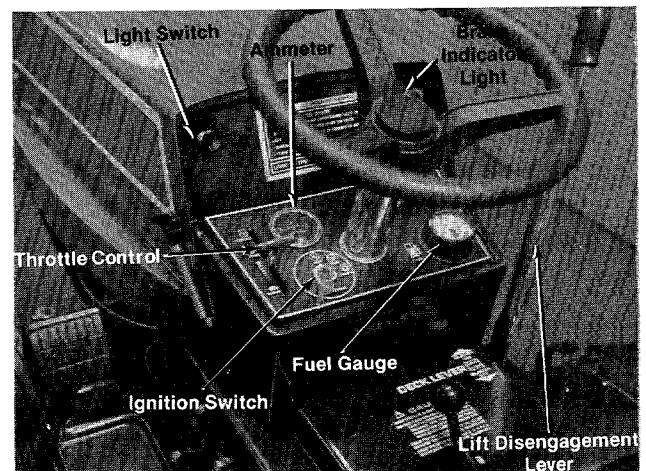

FIGURE 6. CONTROLS
a. Throttle Control. The throttle control is used to regulate the engine speed and choke the engine. The engine should be operated from $\frac{3}{4}$ to full throttle when operating the cutting deck or snow thrower (optional). See figure 6.
b. Gear Shift Lever. The gear shift lever is used to shift into one of three FORWARD GEARS, NEUTRAL or REVERSE. See figures 6 and 7.
g. Ammeter. The ammeter registers the rate of battery charge or discharge. The ammeter should register on the plus side (+) when the engine is running in the fast position until the battery is completely charged. With a fully charged battery or with the engine idling the ammeter will not show a charge. See figure 6.
h. Light Switch. Pull the light switch out to turn on the lights. The lights will only operate when the engine is running. See figure 6.
Electric Start. See figure 6. Turn the key to the START position to start the engine. When the engine is running, let the key return to the ON position. To stop the engine, turn the key to the left to the OFF position and remove it to prevent accidental starting.
j. **Lift and Disengagement Lever.** It is used to raise the cutting deck. Pulling it all the way back and locking it disengages the blades. the engine will not start unless the lift and disengagement lever is in the disengaged position. See figure 6.
Step 3. Place the lift and disengagement lever in the DISENGAGED position. See figure 6.
Step 4. Set the throttle control in the CHOKE position. See figure 6.
To stop the blades, move the lift and disengagement lever (figure 6) into the DISENGAGED position. This raises the deck and disengages the blades.